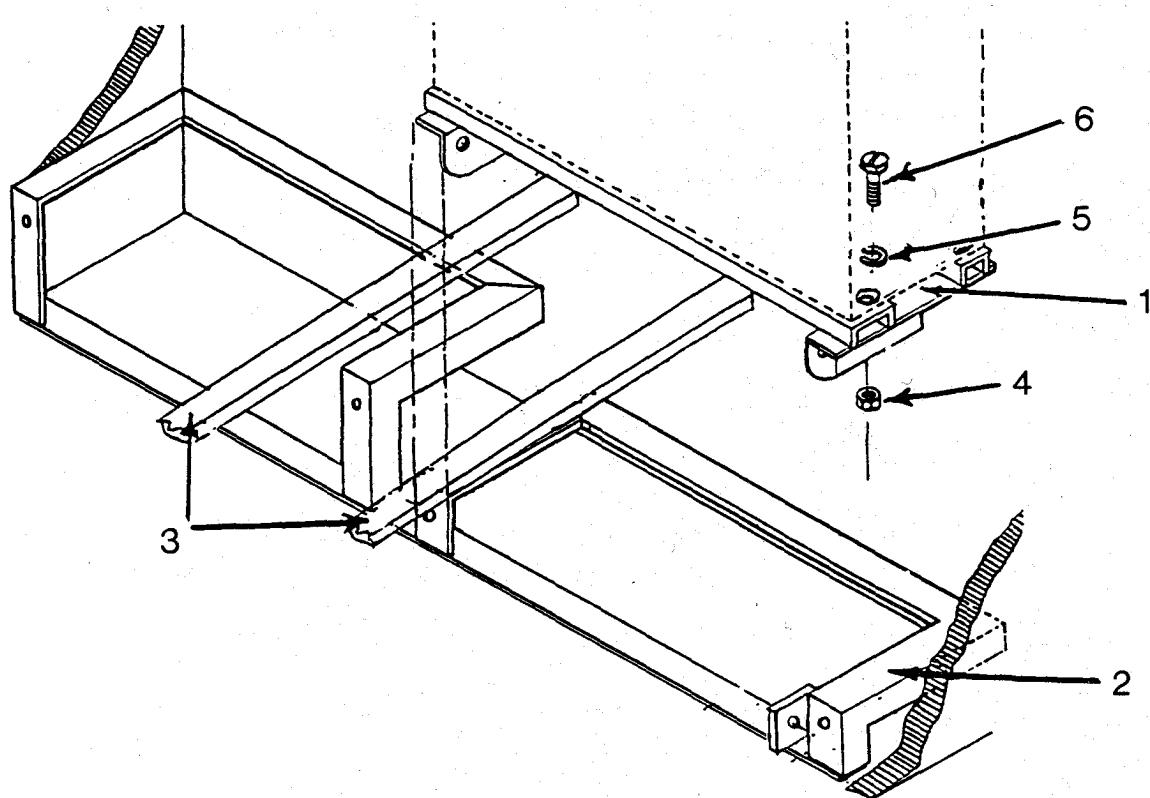

Figure 4-5. Lifting Air Conditioner With Fork Lift
- (19) Slide air conditioner forward until rear of air conditioner mounting bracket (1, Figure 4-5) clears lower mounting bracket assembly (2).
- (20) Carefully guide fork lift tines (3) under air conditioner mounting bracket (1) and move fork lift forward one foot to rear of mounting bracket (1).
- (21) Lift air conditioner from lower mounting bracket assembly (2) and guide fork lift operator back from shelter.
- (22) Lower air conditioner to ground.